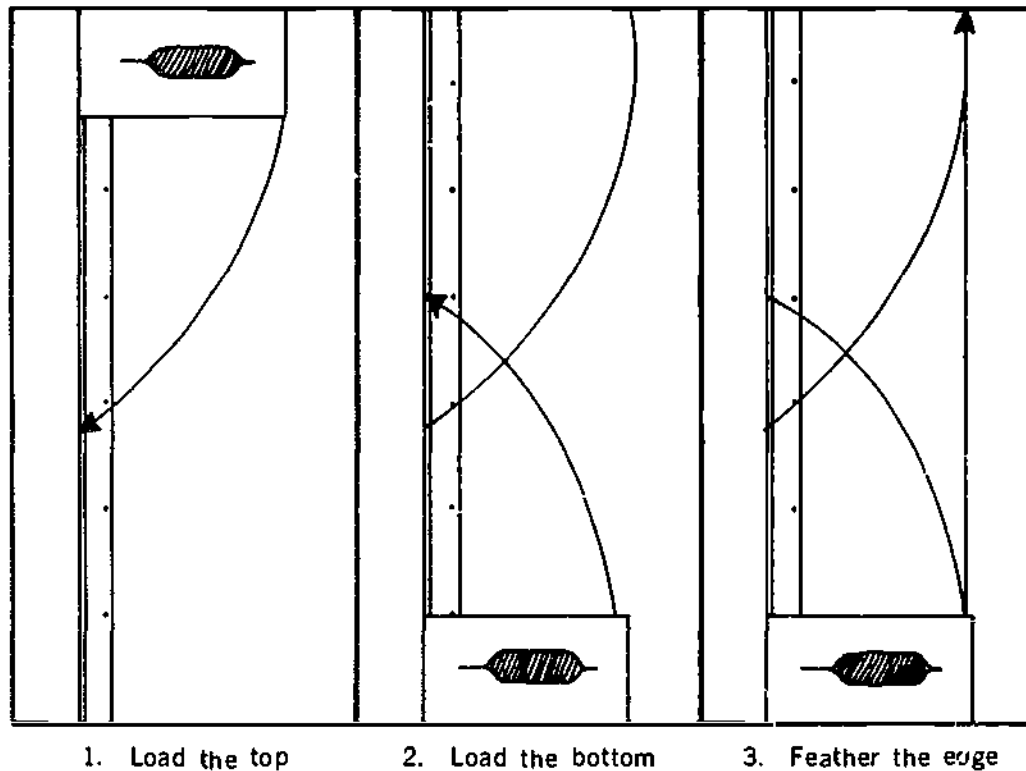

Figure 5-8
the blade down in one motion using the finishing edge of the bead as a guide. The filler should be 3 cm to 5 cm narrower than the blade width. The total filler width for the first coat should not be more than 25 cm. Arc off the pass at a point about halfway between where you started and the floor (Figure 5-8).
2. Load the bead from the floor up with a similar stroke (Figure 5-8). Remember all bead should be filled *right* to the floor.
3. Feather the edge starting from either the top or bottom (Figure 5-8).